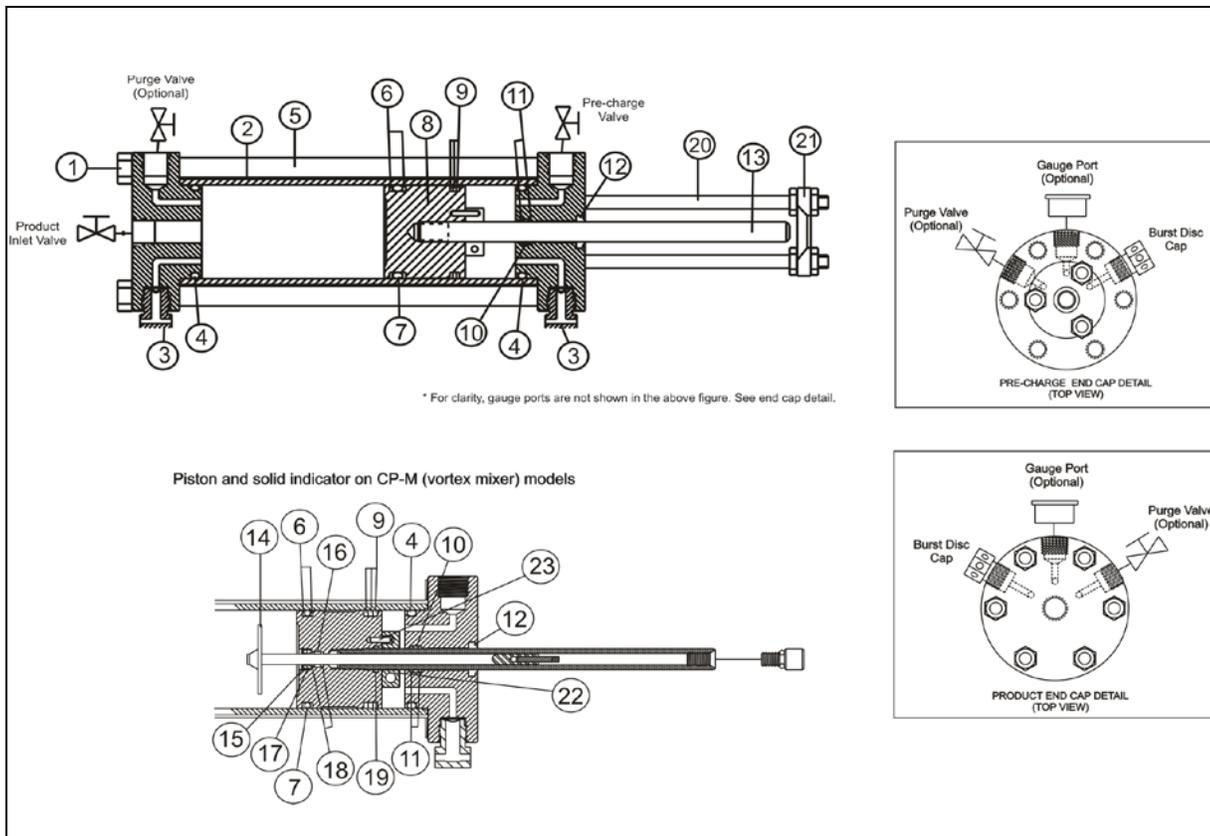

FIGURE 5
- 3.2.9 Remove the six nuts (Part 1, Figure 5) and the six tie bolts (Part 5).
Refer to Figure 5 for the following Section.
Refer to Figure 5 for the following section.